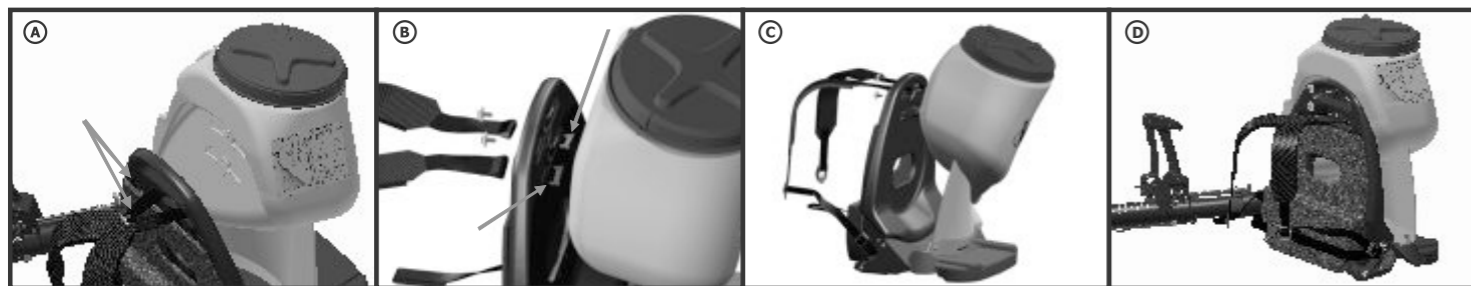

FIGURE 5 Belt position adjustment sequence
**NOTE:** For better fitting on the back of the operator, and for improved comfort during operation, the belts are provided mounted crossed (in an X format) at the upper anchorage point and with a belt for abdominal use (see Figure 5 D).
Besides, this equipment has two belt position adjustment options (Figure 5). Choose the one that provides the operator with maximum comfort. In order to change the height/adjustment of the belt positions proceed as follows:
- a) **Figure 5 A** – Release the two screws (shown by the arrows) which fix the back frame to the tank of the equipment, push the tag slightly backwards and, behind the back frame, pull the top part of each of the belts, loosening their fitting position;
- b) **Figure 5 B** – remove the plastic locks (shown by the arrow) which are placed at the end of each one of the belts, totally freeing them;
- c) **Figure 5 C** – place the belts in the equipment back frame's other position and insert the plastic locks at the ends of each of the belts, and
- d) **Figure 5 D** – Finally, fit the belts with the locks in the desired position, pulling them from the front of the back frame to fix them in position and then replays the screws (\*) that fixes the back frame to the tank.